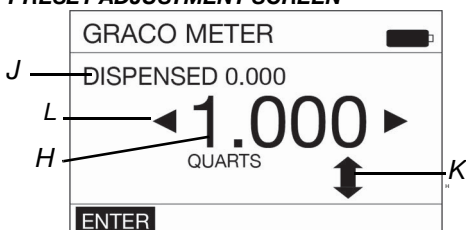

Fig. 31
2. If ACTIVATE (A) is not highlighted, use the LEFT or RIGHT ARROW button on the keypad to highlight ACTIVATE (Fig. 31); then press the center, ENTER button on the keypad to select it.
- PRESET - Allows for increasing, decreasing or entirely changing the amount of fluid for the PRESET selection. The screen shown in FIG. 31 displays. See Function Command (C)/PRESET, page 18 for instructions on changing the PRESET).
- RESET - Resets the Dispensed Fluid Counter (D) back to 0.000.